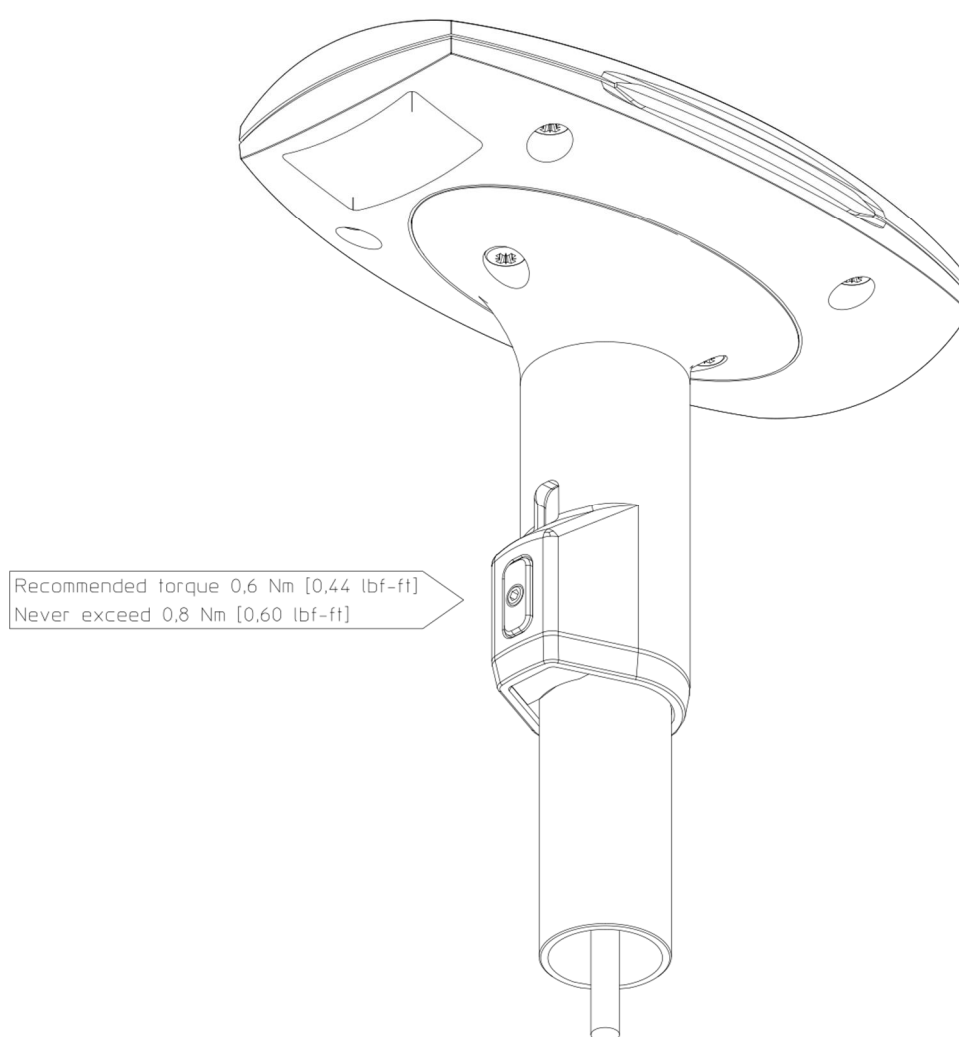

**FIGURE 16: POLE MOUNT INSTALLATION STEP 6 (SECURING THE TWO STAINLESS A4 SCREWS)**
**Step 6:** Fasten the pole mount by securing the two stainless A4 screws onto the LT-1000 NRU as illustrated in Figure 16.